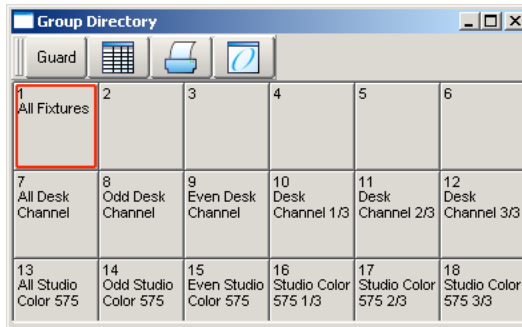

Figure 8.4. The Group Directory
Groups are shortcuts for selecting several fixtures at once. They can be recalled from the Group Directory (see *Figure 8.4, "The Group Directory"*) that you open by pressing Open + Group. Whilst the Autopalettes function will create groups such as All Studio Color 575, Odd Technobeam Iris and Even Studio Spot 575, it can be helpful to create show-specific ones. For the tutorial show, you should make groups for:
3. Select a location in the Group Directory window by pressing the on-screen button; see *Figure 8.4, "The Group Directory"*.